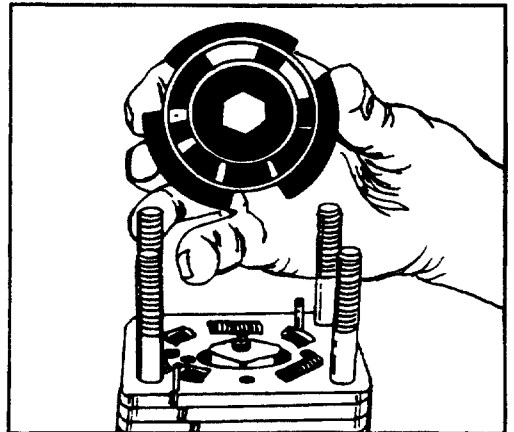

FIGURE 12.
inspect valve plate 13. Inspect the slot edges and ground surfaces. If the valve plate (13) shows nicks or scoring or the edges are not sharp, it must be replaced. See figure 12.